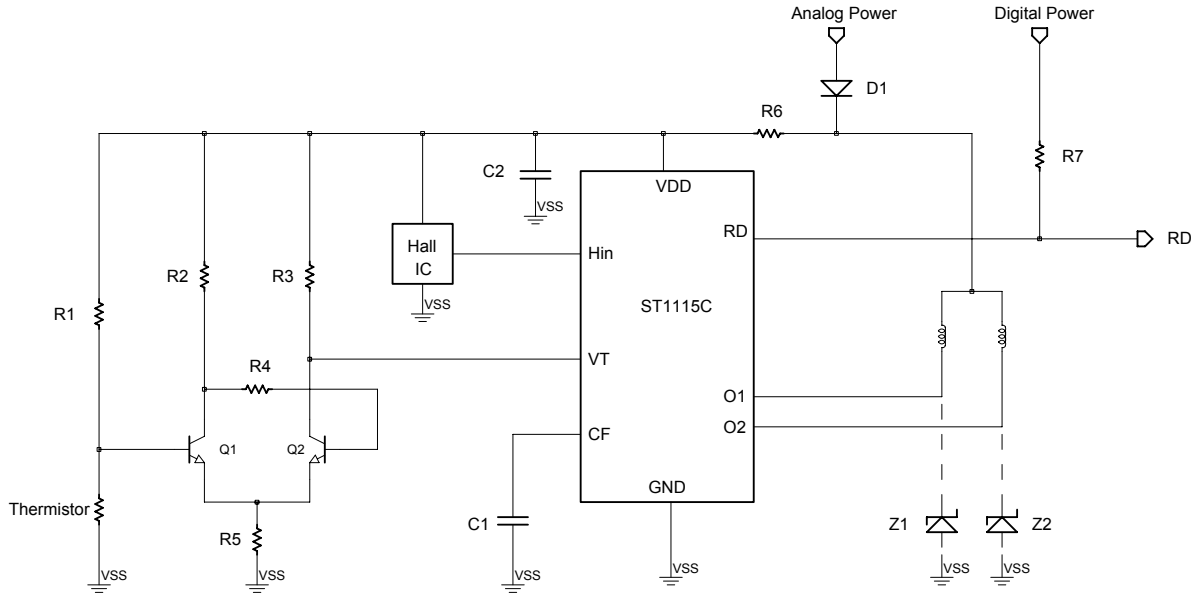
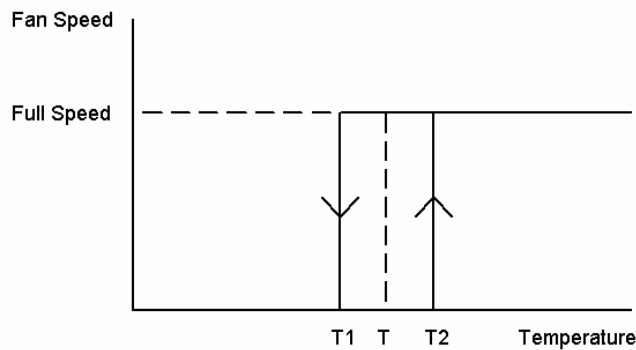

Figure 3. Temperature-control Fan Switch (where ST1115C is shown for illustration).
Figure 4.
2. **Temperature-control Fan Switch** —Refer to Figure 3.
(1) Figure 3 shows the temperature-control fan switch circuit, where the fan either stops or rotates at the full speed, depending on some temperature threshold. Figure 4 indicates the graph of the fan speed as a function of the temperature. The temperature threshold is T with the hysteresis T2-T1.